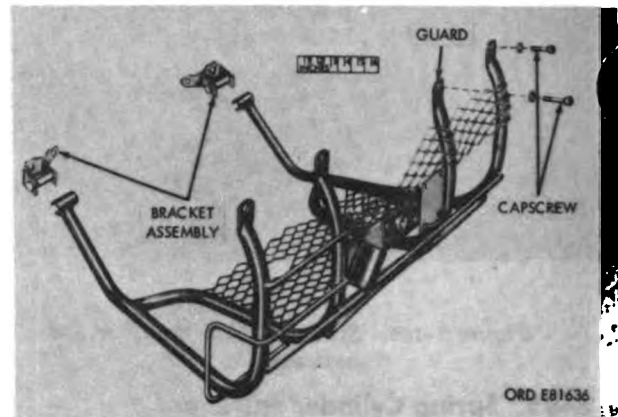
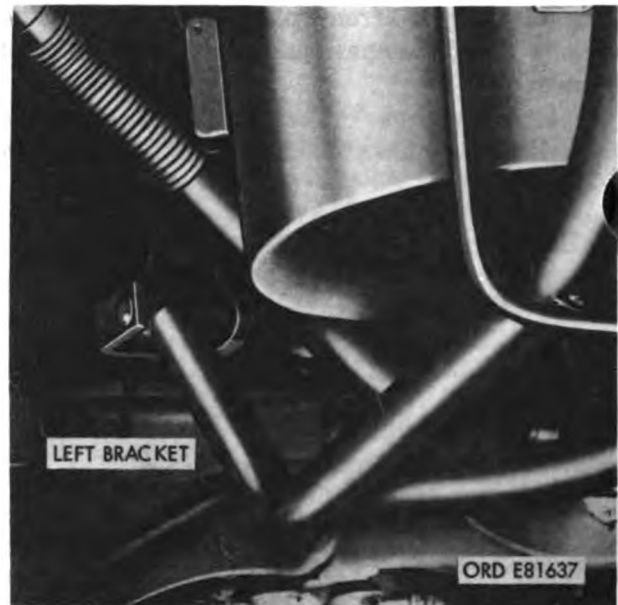

Figure 2-105. Engine guard—M274A4—
Figure 2-106. Removing or installing engine
## 2-89. Engine Guard—M274A4 (Figure 2-105)
- (1) Remove three 3/8 × 1 capscrows and three 3/8 lockwashers, attaching two engine guard-end uprights and left-center upright to the platform.
- (2) Remove 3/8 × 1-1/2 capscrows (fig. 2-105) and lockwashers securing the engine guard right-center upright to the rear of the platform.
- (3) Lower engine guard assembly.
- (4) Remove engine guard (fig. 2-106) by pulling the left-and right-end uprights from the left and right bracket assemblies.